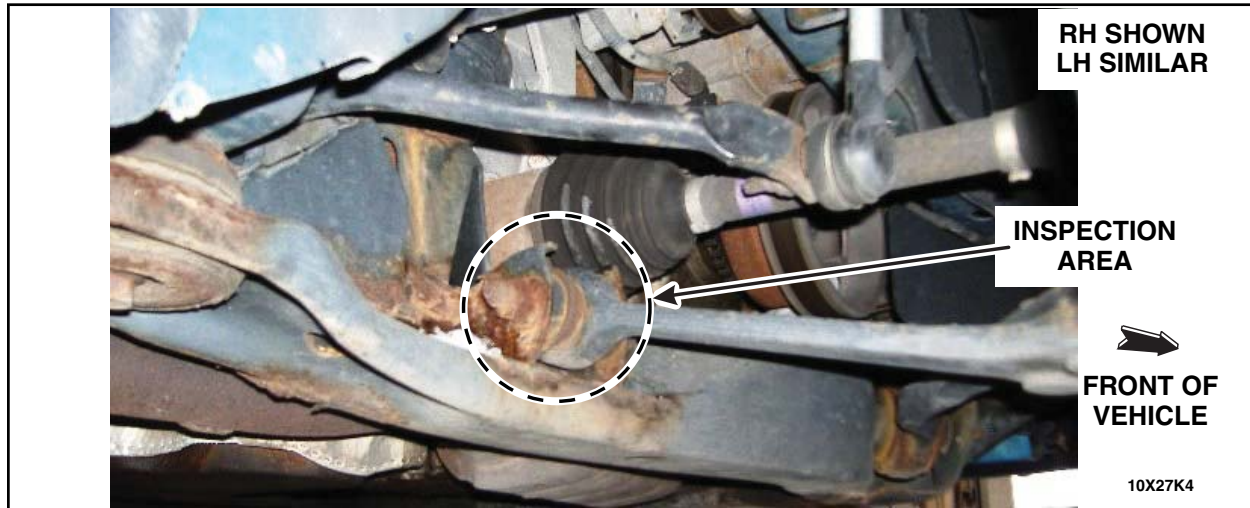

FIGURE 1
2. Using a hand-held wire brush, clean all loose rust, scale, and debris from both surfaces of the driver and passenger side of the subframe lower control arm (LCA) rear attachment flanges. See Figure 1.